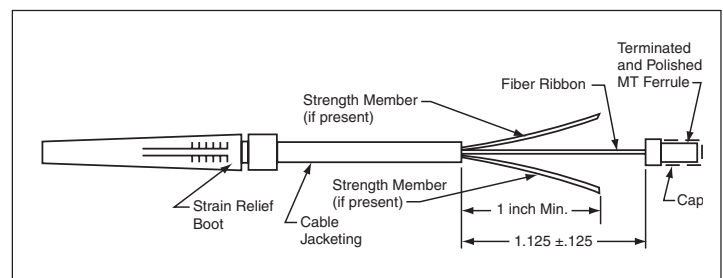

Figure 1
- a. Confirm that the terminated cable assembly is capable of being configured as shown in Figure 1.